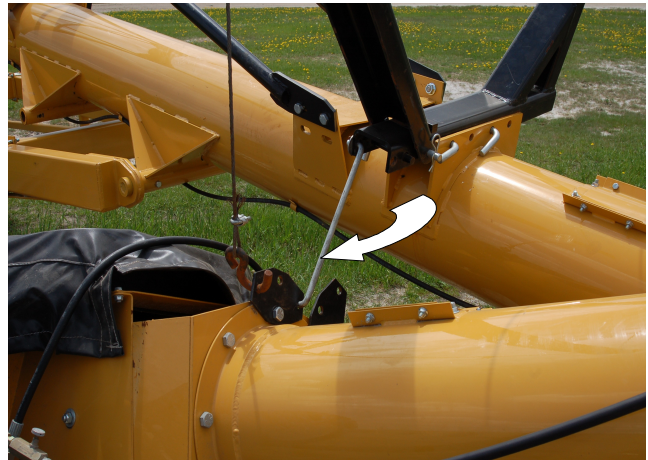

Fig. 18 FULLY RAISED HOPPER
8. Install the swing hopper transport rod and its retainers. See Fig. 18.